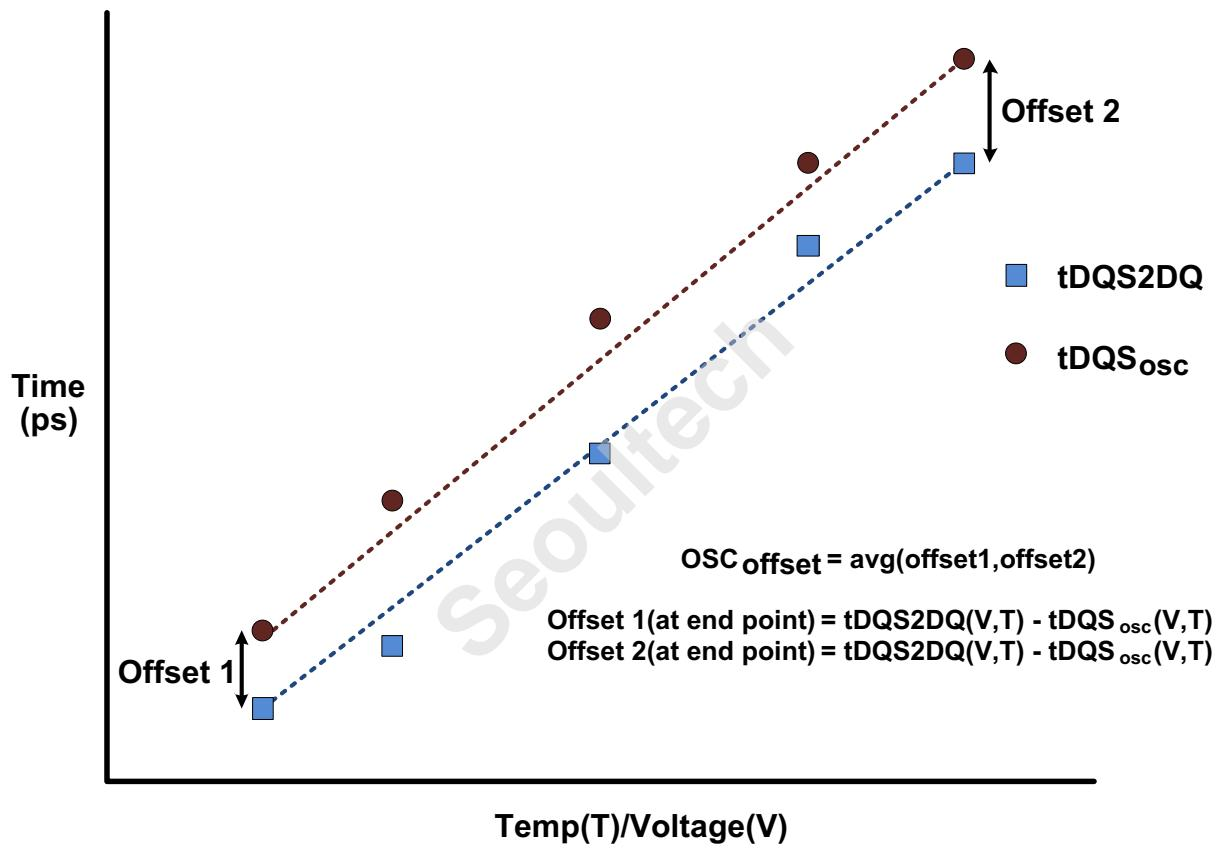

Figure 134 — Interval Oscillator Offset OSCoffset
- OSCOffset: Average delay difference over voltage and temp (shown in Figure 134)